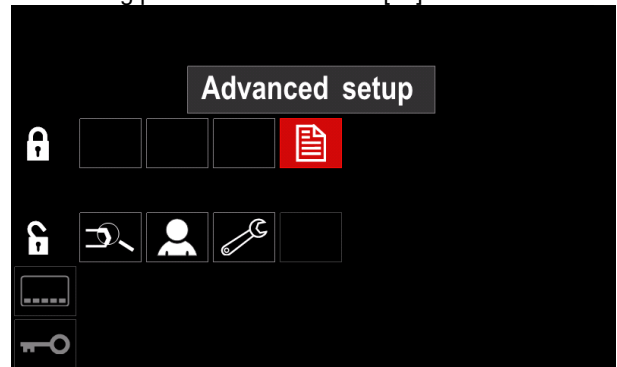

Figure 49
- Press right knob [33]. The icon of chosen parameter will disappeared from the lower part of the display (Figure 49). This parameter disappeared from the Welding parameters bar as well [41].